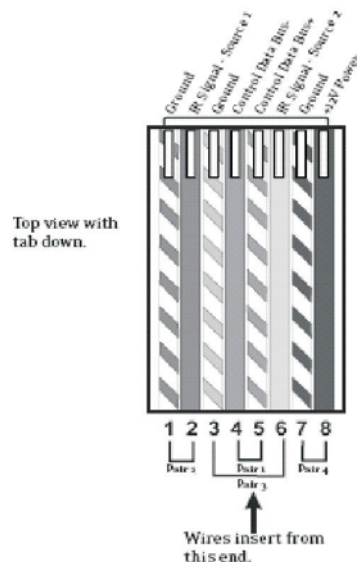

Fig.1: EIA 568A wiring scheme for Cat-5 Cable
The correct wiring scheme for the Cat-5 cable is standard EIA/TIA 568A. Properly terminating the Cat-5 cable is crucial for the operation of the system. It is very important to use a good quality crimp tool, and testing each end to end run with Cat-5 wire tester will insure that your system operate flawlessly, Fig. 1.
- Step2 Untwist the wires and fan them out individually. Arrange the wires into the correct color scheme as shown in Fig.1